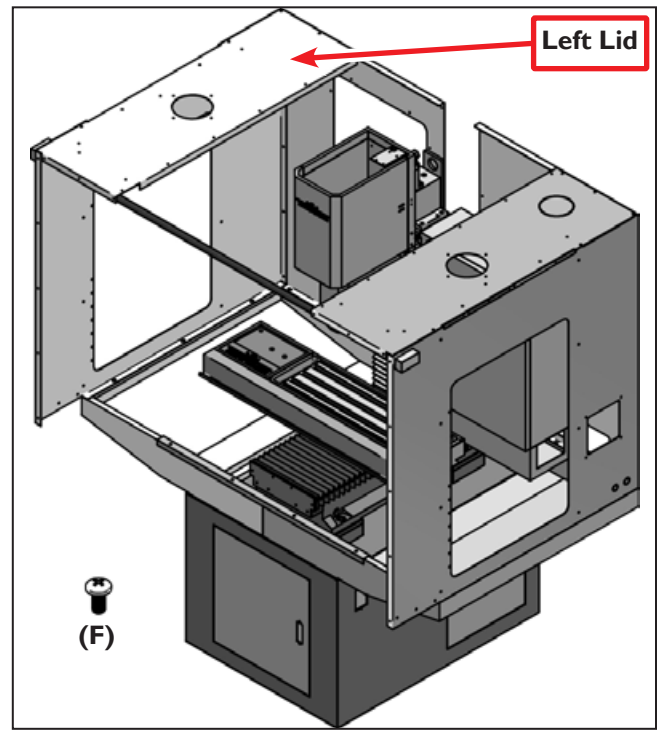

Figure 9
22. Place the upper Left Lid (E.28) on top of the left rear panel, left side panel and door support rod (see **Figure 9**). Loosely fasten with (F) screws along the rear and side panels.